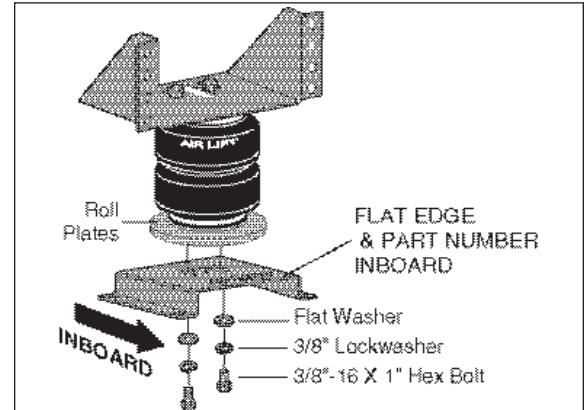

Figure 5
2. Attach the lower bracket to the air springs with the two 3/8”-16x7/8” bolts, lock washers, and flat washers (Figure 5).